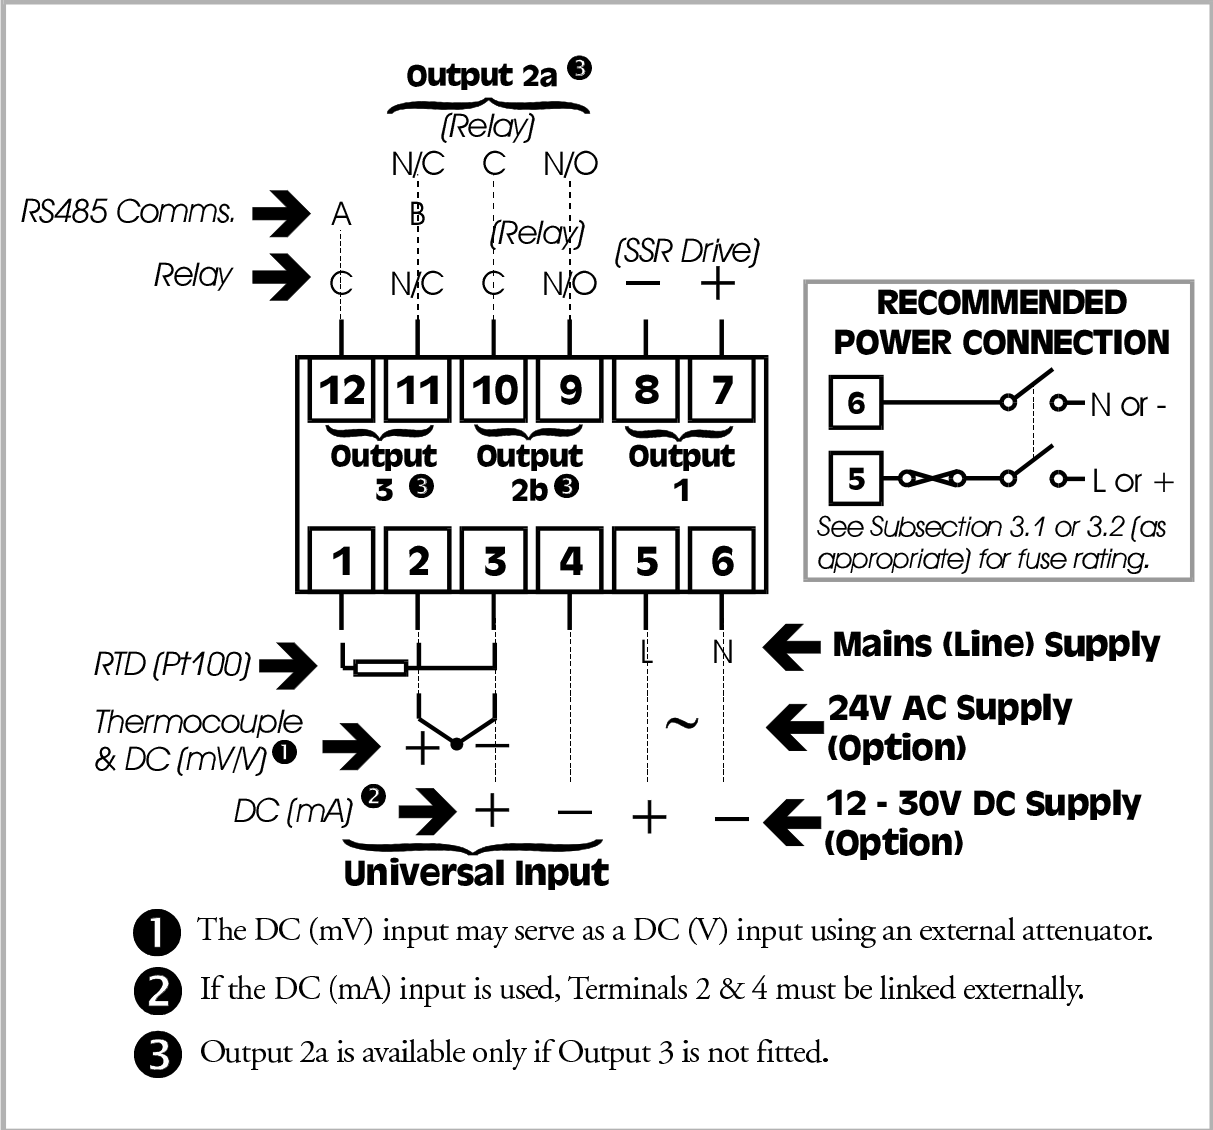

Figure 3-1 Rear Terminal Connections
CAUTION: This equipment is designed for installation in an enclosure which provides adequate protection against electric shock. Local regulations regarding electrical installation should be rigidly observed. Consideration should be given to prevention of access to the power terminations by unauthorised personnel. Power should be connected via a two-pole isolating switch (preferably situated near the Controller) and a 1A fuse, as shown in Figure 3-1.
This version operates on 12 - 24V AC 50/60Hz or 12 - 30V DC supply. The power consumption is approximately 4W. Connection should be made via a two-pole isolating switch and a 315mA slow-blow (anti-surge Type T) fuse (see Figure 3-1).
DC (mV) inputs are connected to Terminals 2 and 3 in the polarity shown in Figure 3-1; DC (V) inputs are connected to the same terminals with the same polarity but require an external attenuator. DC (mA) inputs are connected to Terminals 3 and 4 in the polarity shown in Figure 3-1 with Terminals 2 and 4 linked externally.